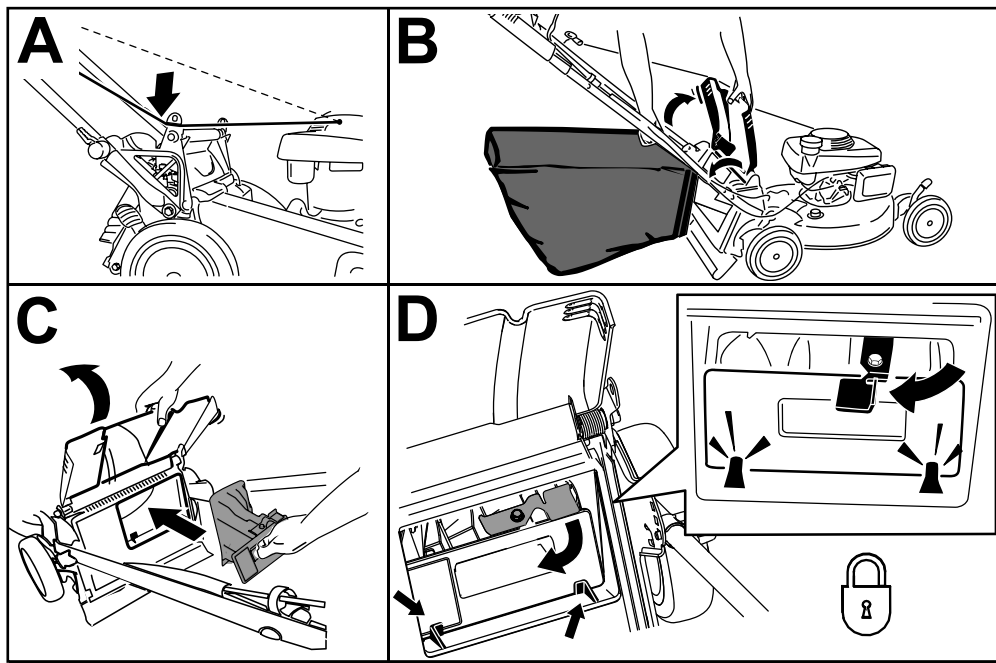

Figure 23
1. Route the starter rope around the lower-rope guide (A of Figure 23).
2. Raise and hold up the rear deflector and lift the grass bag up by the handle off the notches of the handle brackets (B of Figure 23).
3. Install the rear plug (C of Figure 23).
Important: Ensure that the rear plug is locked in place. To lock the plug, firmly push the plug in until it snaps into place behind the tabs, and rotate the lever on the plug to the left (D of Figure 23).